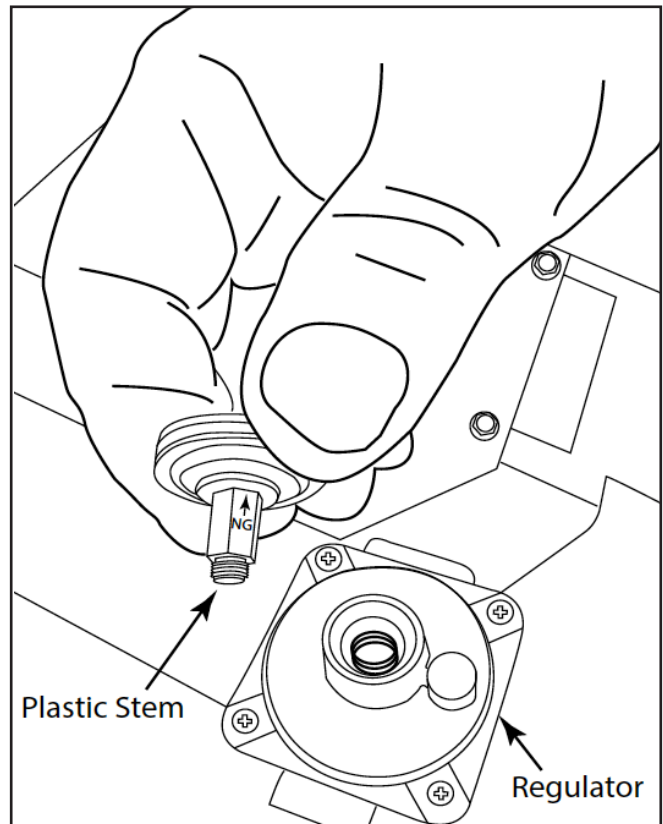

Fig. 4 Regulator stem shown in NG setting
Step 5: On the underneath side of the aluminum cap is a plastic stem. Using a 6mm wrench remove the stem, unscrew the stem (counter-clockwise), turn it over and install the opposite end back into the cap. See Fig. 4.
The gas type is determined with the arrow pointing at the aluminum cap as seen in Figs. 4 and 5.